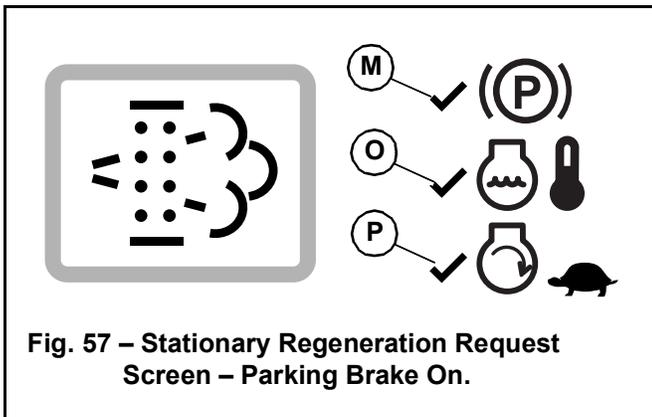

Fig. 57 – Stationary Regeneration Request Screen – Parking Brake On.
- a. Apply the parking brake using the parking brake switch or by lifting the safety bars/arm rests. A checkmark (M, Fig. 57) is displayed next to the parking brake icon in the middle of the stationary regeneration request screen.